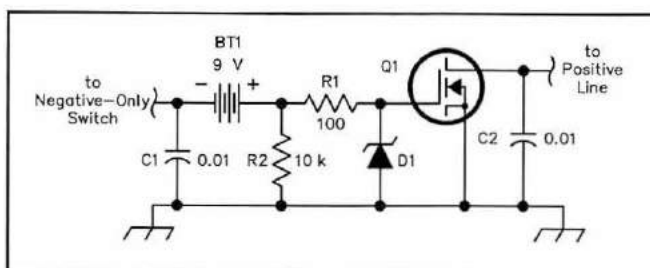

Fig 2-22—A level-shifting circuit that allows a negative-only switch to key a positive line.
**A** The simple circuit shown in Fig 2-22 should do the trick. It uses an inexpensive power MOSFET to allow your positive transmitter keying line to be actuated by the negative-only switching output of your keyer.